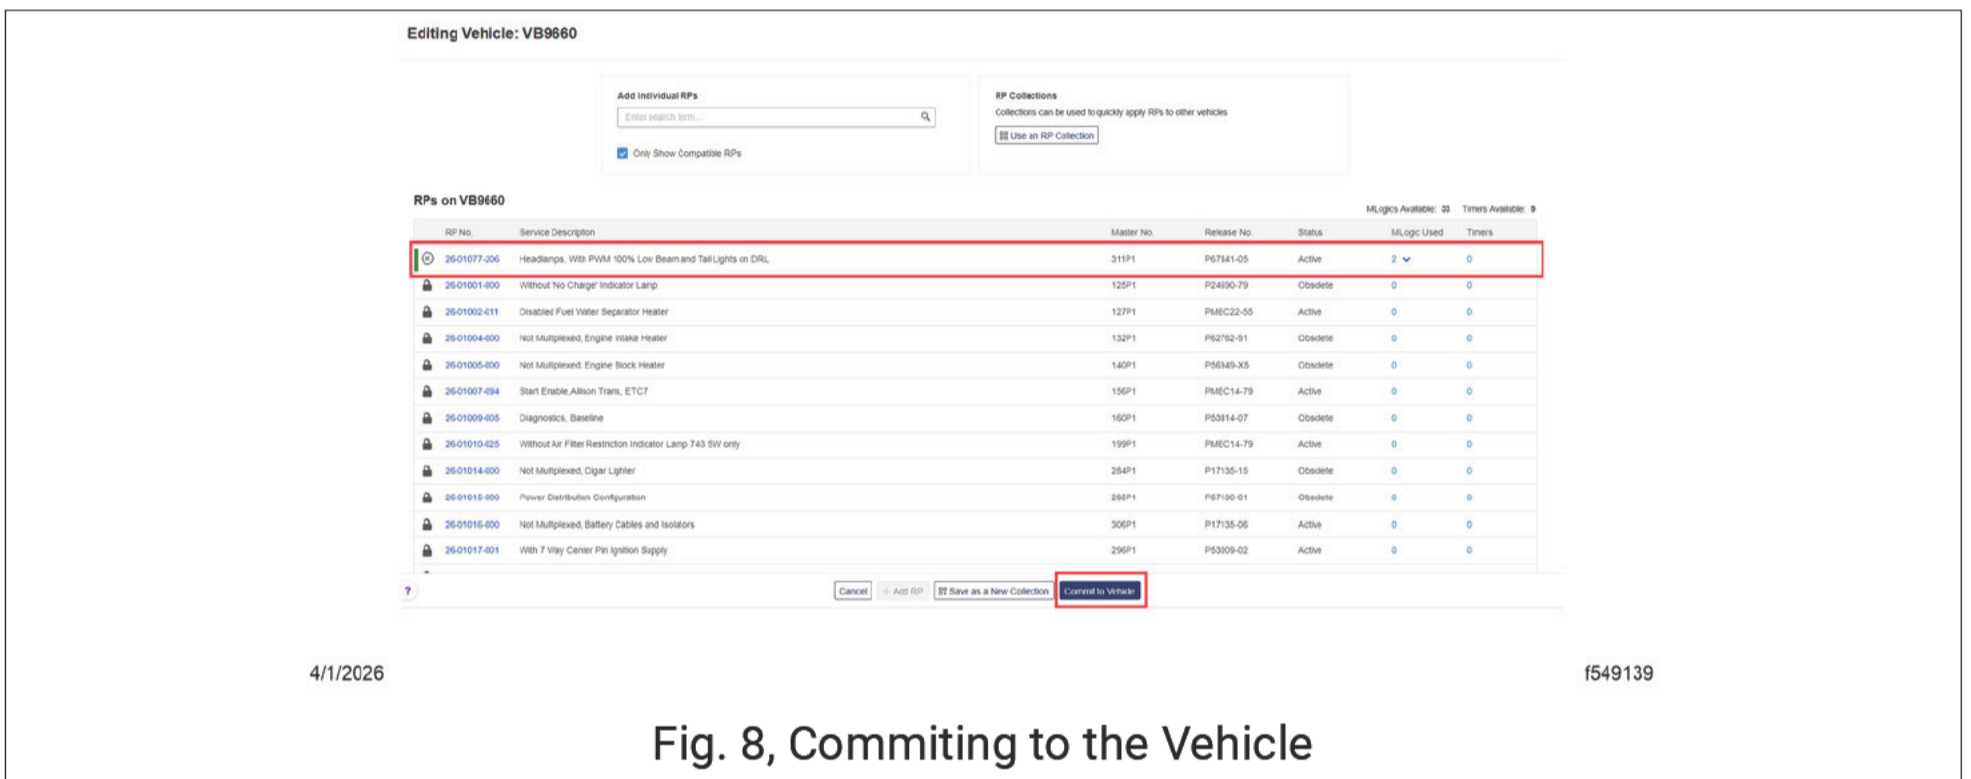

Fig. 8, Committing to the Vehicle
14. Verify the new RP and commit it to the vehicle. See Fig. 8.